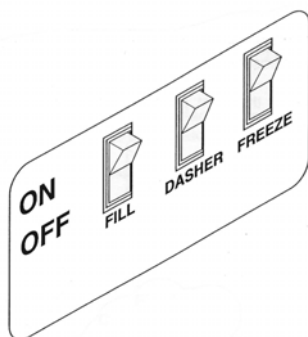

Fig. 3
| Fig.3 Control Switch | 5 |
1. Set the freeze switch (Fig. 3) and fill switch to the "OFF" position and set the dasher switch to the "ON".